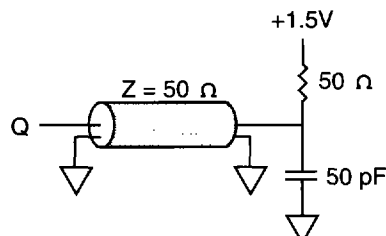

Figure 3
- AC output loading is specified with $C_L = 50pF$ as in Figure 3. Figure 4 is shown for reference. Transition is measured at the 1.5V reference level.